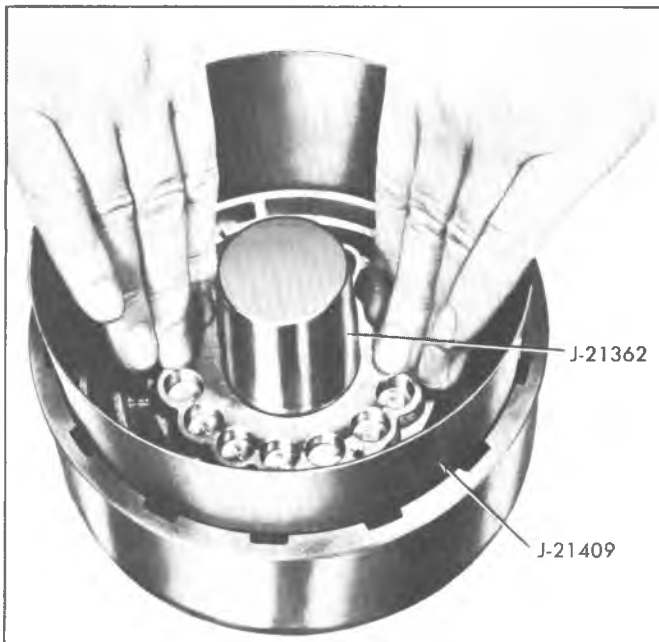

Fig. 88T--Installing Direct Clutch Piston
4. Place seal protectors, Tools J-21362 Inner, J-21409 Outer, over hub and clutch housing and install clutch piston, with a rotating motion (fig. 88T).
5. Install sixteen (16) springs into piston.